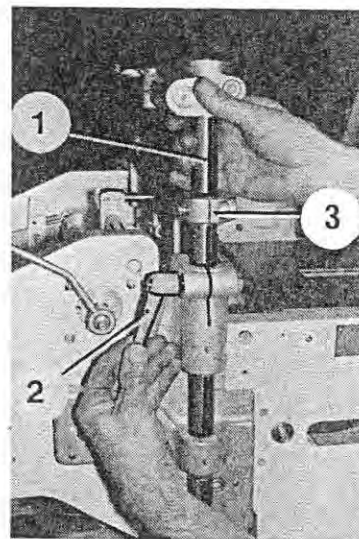

Fig. 228
2. To adjust the thermal printer in longitudinal direction to the wrapper, grasp the rods of the counterplate (Figure 228/1) and loosen the clamping facility, using the lever (Figure 228/2).
4. The stop ring (Figure 228/3) can be used as a stop for the longest wrapper. To do so, loosen the clamping screw of the stop ring. Lower the stop ring down to the clamping facility and tighten the clamping screw.